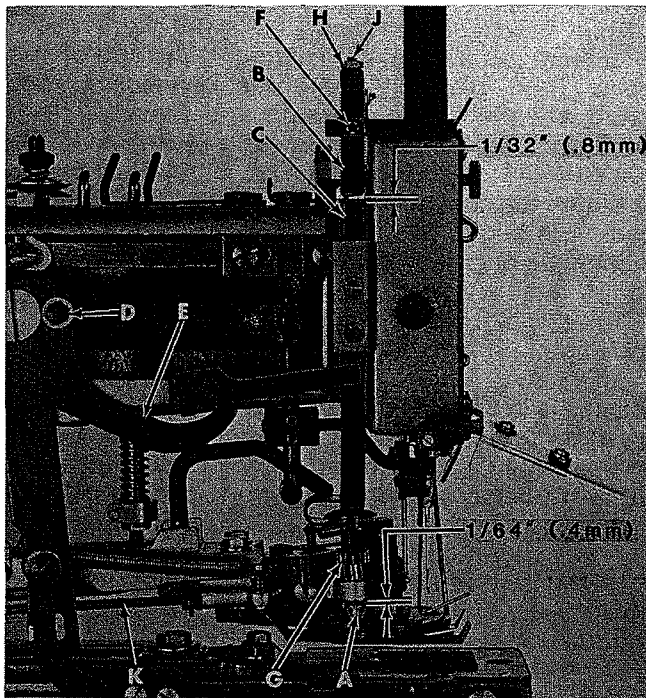

Fig. 46
Machine is in STOP POSITION. The top of orienting pin base (A, Fig. 46) must be 1/64 inch (0.4 mm) from bottom of bushing. The lifter lever stop (B) is adjusted so that there is 1/32 inch (0.8 mm) clearance between the bottom of stop (B) and bracket (C).
Loosen the two hex head screws (D, Fig. 46) and move the lifter lever (E) up or down as needed. Tighten screws (D).
Remove button from the holder at the orienting pin (A). Engage the machine into RUN POSITION. The driven gear (G, Fig. 46) of the orienting pin should now contact the top of the bushing with just enough pressure to push the pins into the button holes and not bounce out during the stitching cycle.
Machine is in STOP POSITION. Remove the needle and turn power "ON". Manually move the gear rack connecting rod (K, Fig. 46) forward to the end of its stroke. Then gradually move the connecting rod toward the rear while pressing and releasing the operating treadle several times. KEEP FINGERS AWAY FROM UNDERNEATH THE CLAMP. Observe the button moving into sewing position. The machine should not begin its stitching cycle until the button reaches the proper sewing position.